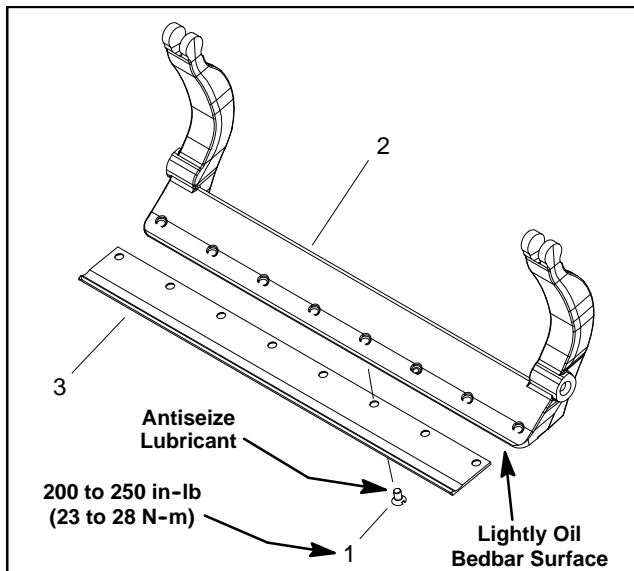

Figure 23
2. Remove screws from bedbar using a socket wrench and bedknife screw tool (see Special Tools). Discard screws. Remove bedknife from the bedbar (Fig. 23).